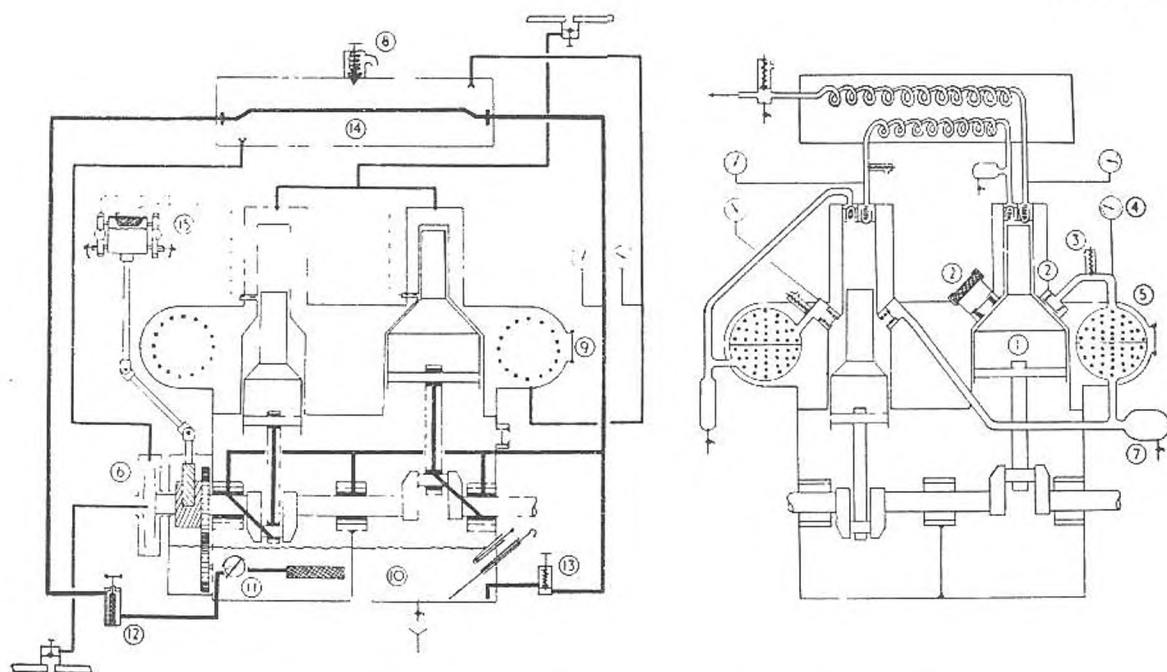

Fig. 20. H.P. air compressor (Reavell type)—air, water and oil circuits
H.P. AIR COMPRESSOR (REAVELL TYPE) (Refer to Fig. 20)